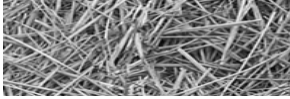

Figure 4.1
- Slug bar ratchet - 2 see figure 4.1
- Slug bar shaft - 2 see figure 4.1